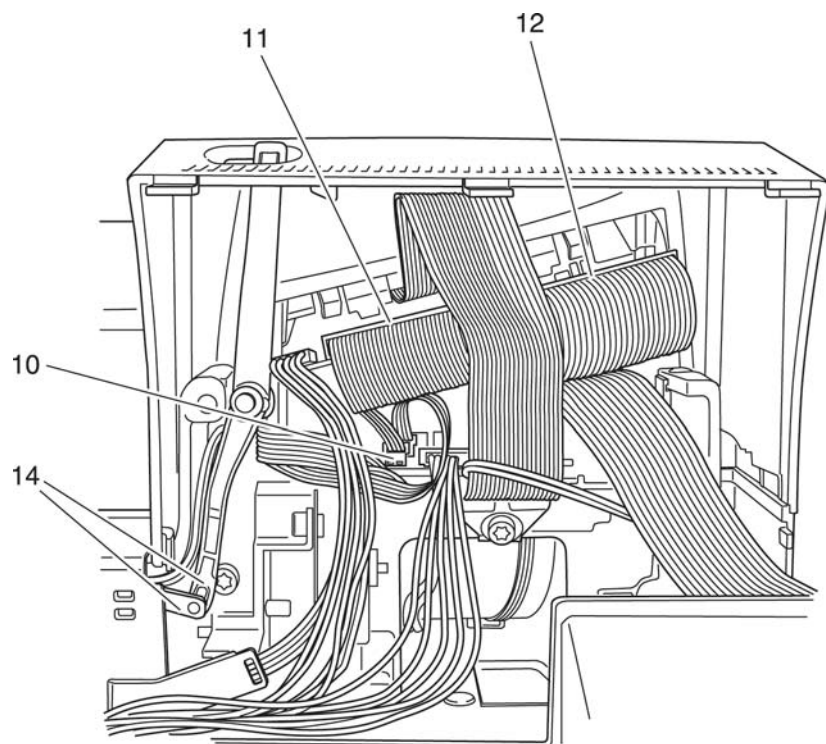

Fig. 4
- Disconnect plug 10 of the free-arm cover from the circuit board (fig. 4).
- Bring the feed dog lowering mechanism to its normal working position (fig. 4).